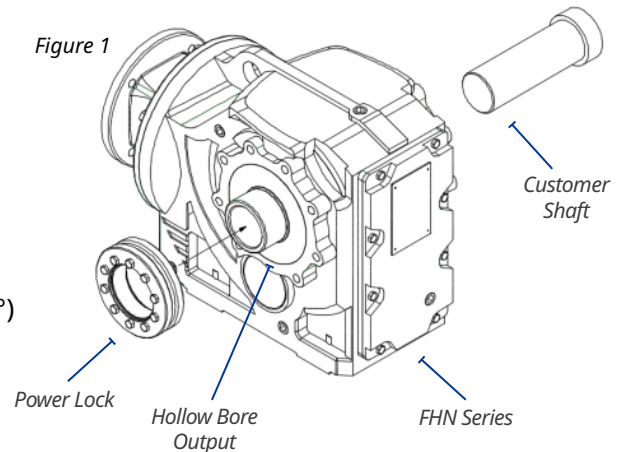

Figure 2
2. Install power lock onto the output shaft. (Fig. 2)